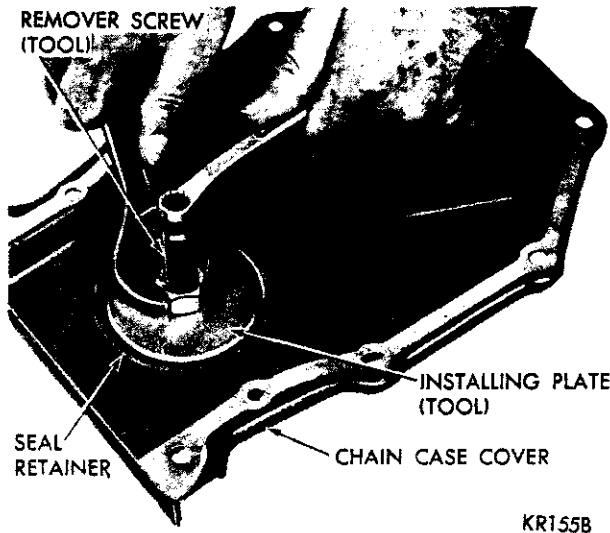

Fig. 22—Installing New Seal
(8) Install flat washer and nut on remover screw, hold screw and tighten nut (Fig. 22).